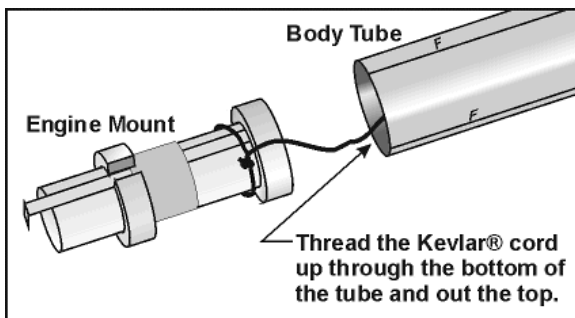

Figure 21
21. Locate your completed Engine Mount from Step 7. Referring to **Figure 21**, pass the Kevlar® Cord up through the body tube, from the bottom, until the cord comes out of the top of the body tube.